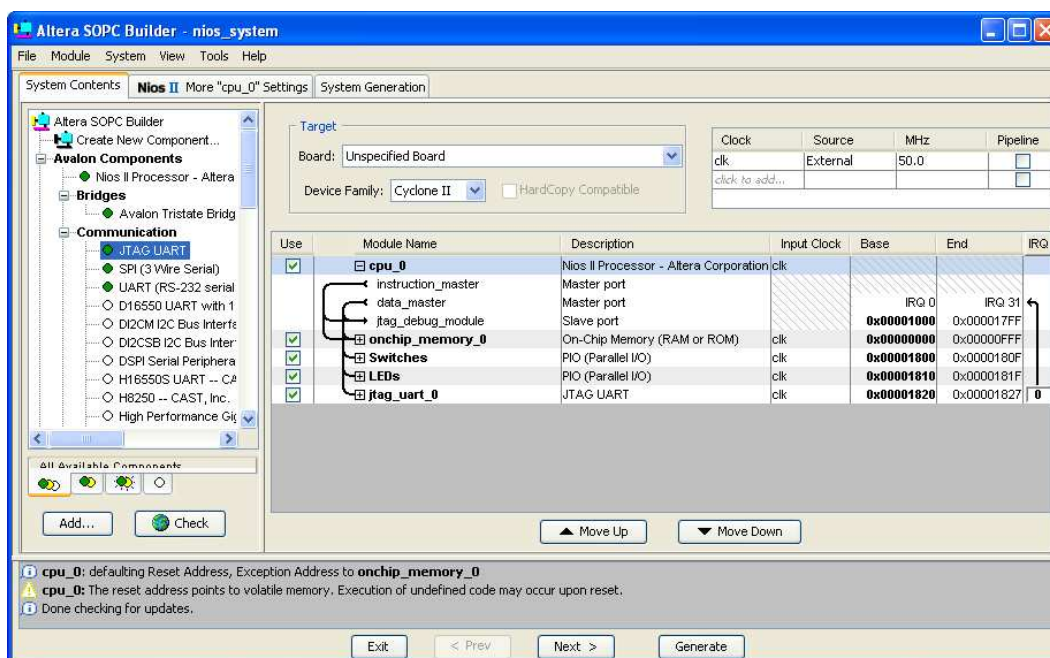

Figure 14. The final specification.
11. The base and end addresses of the various components in the designed system can be assigned by the user, but they can also be assigned automatically by the SOPC Builder. We will choose the latter possibility. So, select the command (using the menus at the top of the SOPC Builder window) **System > Auto-Assign Base Addresses**, which produces the assignment shown in Figure 14.
A parallel I/O interface generated by the SOPC Builder is accessible by means of registers in the interface. Depending on how the PIO is configured, there may be as many as four registers. One of these registers is called the Data register. In a PIO configured as an input interface, the data read from the Data register is the data currently present on the PIO input lines. In a PIO configured as an output interface, the data written (by the Nios II processor) into the Data register drives the PIO output lines. If a PIO is configured as a bidirectional interface, then the PIO inputs and outputs use the same physical lines. In this case there is a Data Direction register included, which determines the direction of the input/output transfer. In our unidirectional PIOs, it is only necessary to have the Data register. The addresses assigned by the SOPC Builder are 0x00001800 for the Data register in the PIO called Switches and 0x00001810 for the Data register in the PIO called LEDs, as indicated in Figure 14.
You can find a full description of the PIO interface by opening the SOPC Builder window in Figure 14 and right-clicking on the module name of a PIO (either Switches or LEDs). Then, in the pop-up box select **Data Sheet** to open the document *PIO Core with Avalon Interface* which gives a full description of the interface. To use this facility you need to be connected to the Internet.